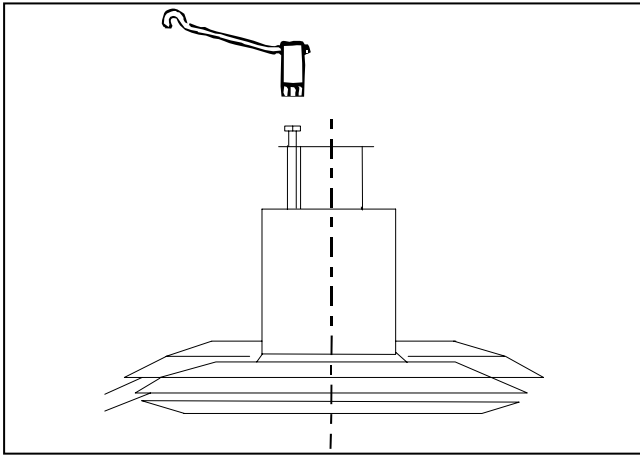

Fig. 12
**FIG. 12** The machine has continuously variable adjustment of stubble height and the height can be adjusted to 30 mm. This can be done by turning the spindles with the tool delivered with the machine.